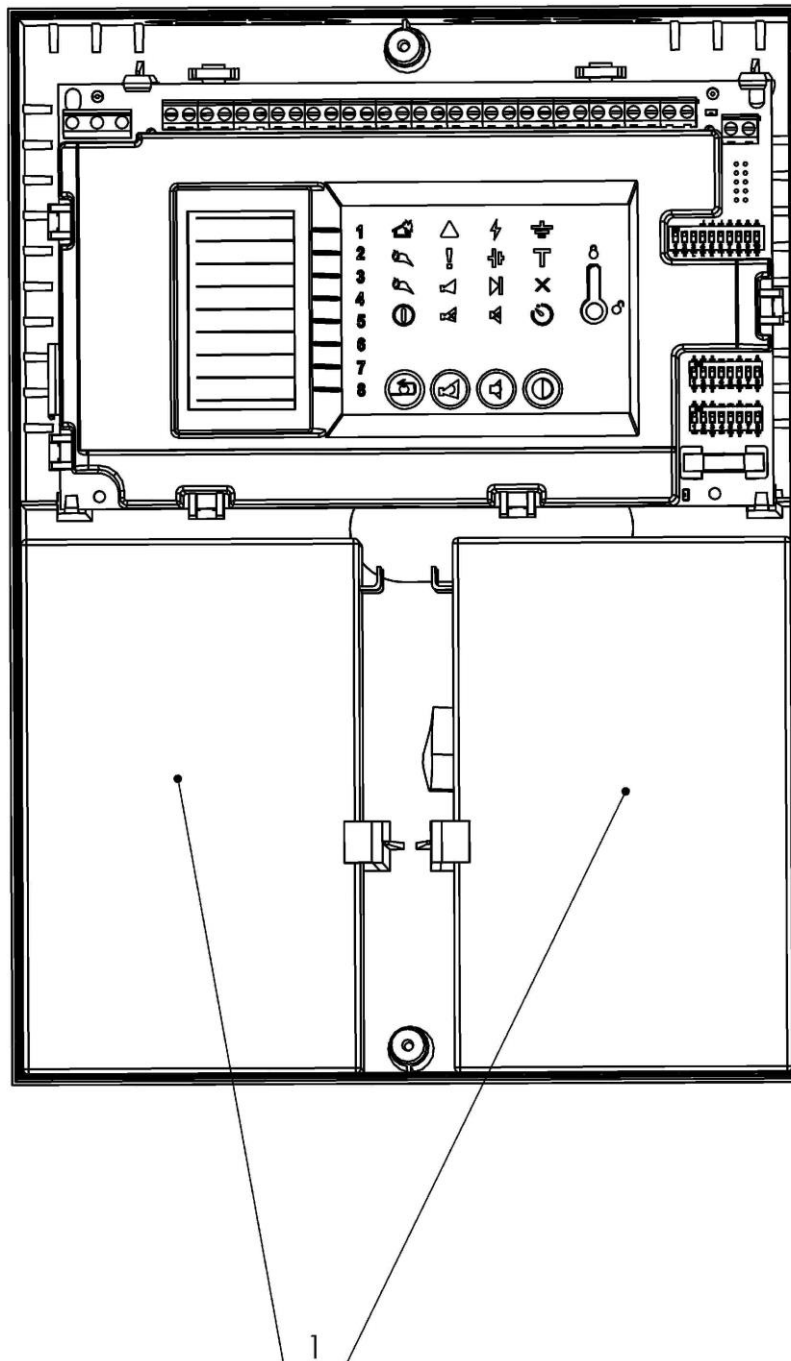

Fig.13
- Install the back-up batteries in the cabinet of the FCP (fig.13, pos.1). The maximum capacity of the batteries is 7 Ah, but it is correct to install 1.2 Ah or 4.5 Ah back-up batteries, as well.